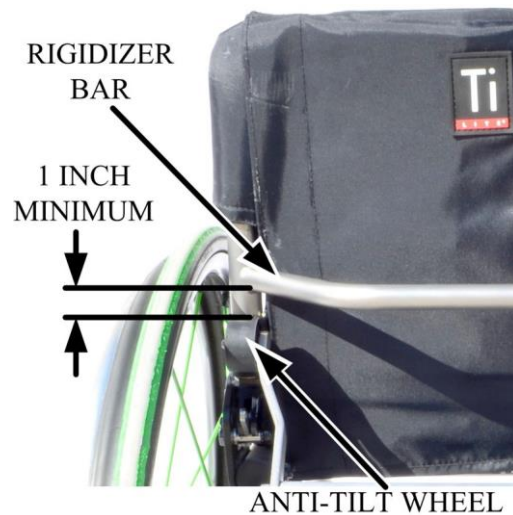

Figure 8.
8. Once desired width is achieved, tighten four cross member allen bolts (Figure 8).